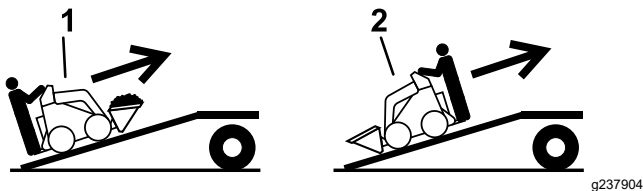

Figure 14
5. Load the machine onto the trailer with the heavy end up the ramp, carrying loads low (Figure 14).